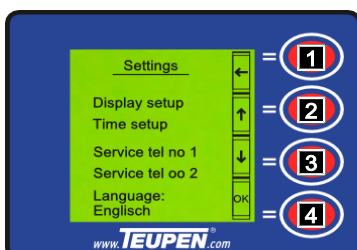

Fig. 94
1. Select the desired language with the [function keys] (Fig.94/2 and 3).
2. Press the [function key] (Fig.94/4).
3. Select the desired language with the [function keys] (Fig.94/2 and 3).
4. Use the [function key] (Fig.94/4) to confirm the selected language.